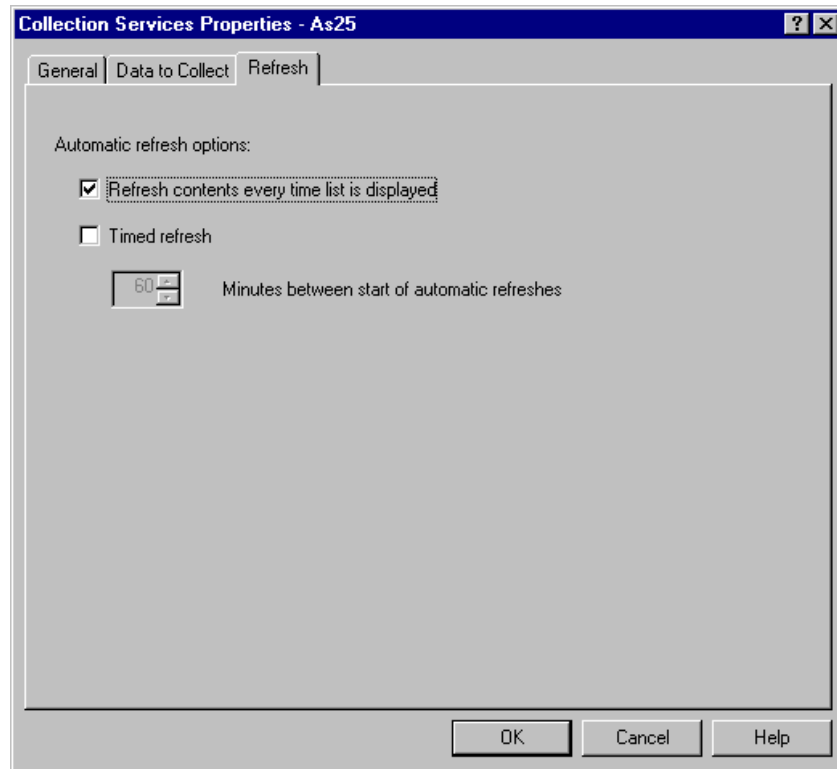

Figure 124. Collection Services Properties window: Refresh page
3. Click the **Refresh** tab to view the page as shown in Figure 124.